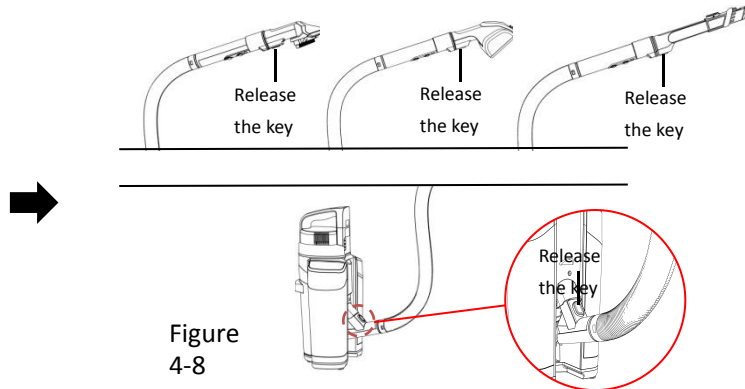

Figure 4-8
B. Water spray cleaning: Please choose to turn on or off the water spray function according to the actual cleaning needs. When you turn on the system, you can choose to tap the "Low Water Flow" or "High Water Flow" button on the handle and tap to turn off. Figure 4-8.